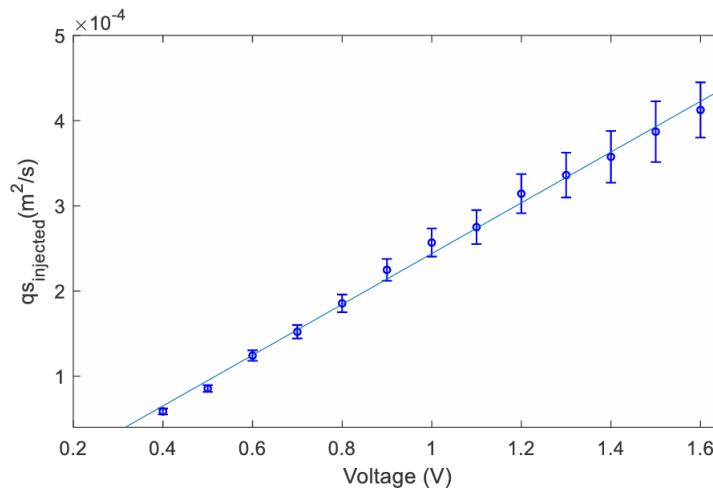

Figure 3: Calibration of solid-load (with $dp=3mm$) as function of voltage on the conveyor belt system.
3. ACVP acquisition – clear water (CW) – 40 min
- Under demonstrator supervision, set the conveyor belt to a chosen value. Estimate the duration of your acquisition to have a constant sediment feeding (Fig. 3)